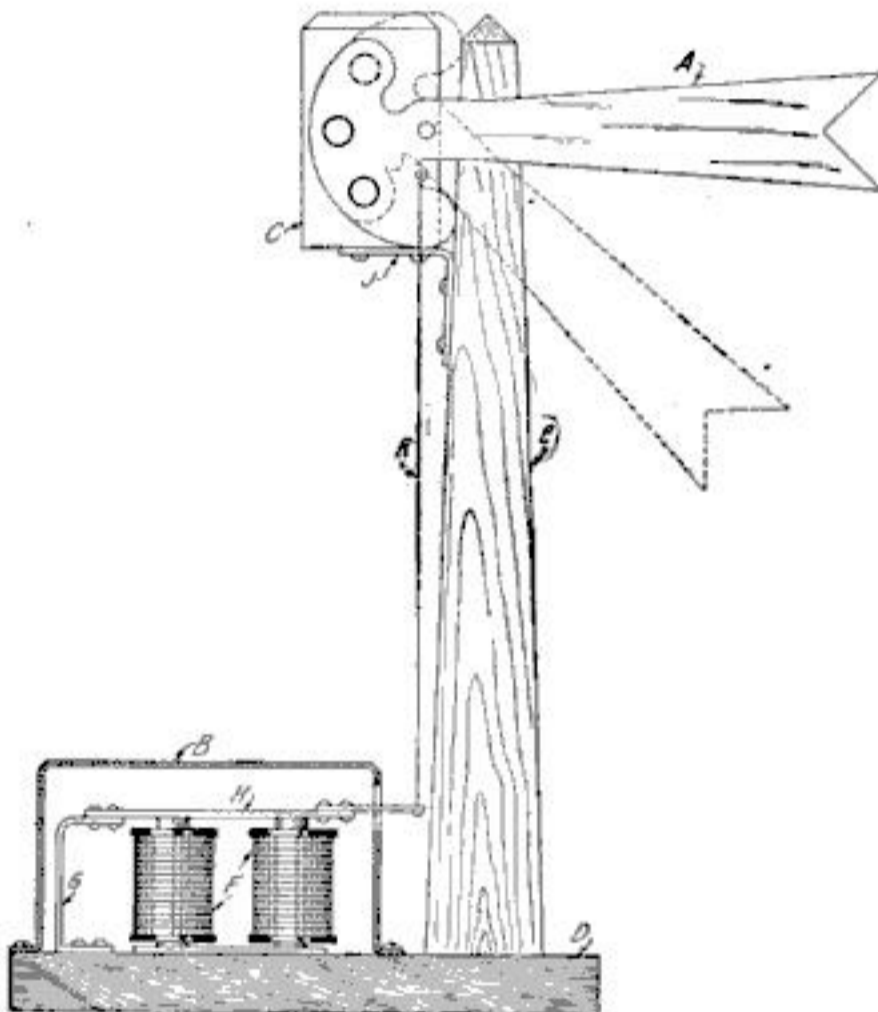

Fig. 1. The semaphore, if properly painted, has a very realistic appearance
Its construction requires an electromagnet, (F) Fig. 1, pulling down an arm (A) when the magnet is energized. The arm is provided with a small extension, so that it automatically shows the regulation colored lights at either position of the arm. When at right angles to the standard it is supposed to signify "Stop" or "Danger," and a tiny red light shows. When hanging down at 45° from the standard it signifies "Clear Track" and only a small white light is seen.
No dimensions are given for the spring (G), armature (H), or projection arm (Fig. 1), their size depending on the size magnet used. The spring (G) should be made of some spring metal, such as german silver or phosphor bronze. The armature (H) is made of soft iron and the projection arm of aluminum. The spring and arm are riveted to the armature.
placed at a distance from the semaphore. In Fig. 1, the arm is shown with the current passing through the magnet.